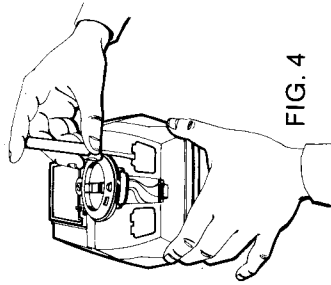

FIG. 4
2. Using a small, thin screwdriver, pry up the inserts in the top of BIG TRAK as shown in Fig. 4.